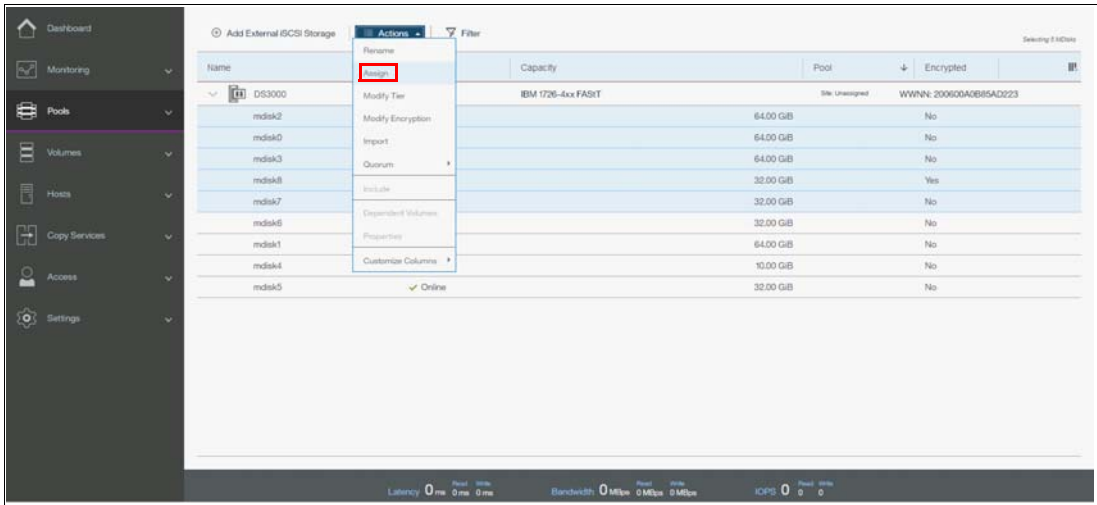

Figure 11-6 Adding MDisks to a pool
10. After the tier is assigned, add the MDisks to an existing pool or create a new pool to include them. Figure 11-6 shows how to add selected MDisks to an existing storage pool. Click **Assign** under the Actions menu.